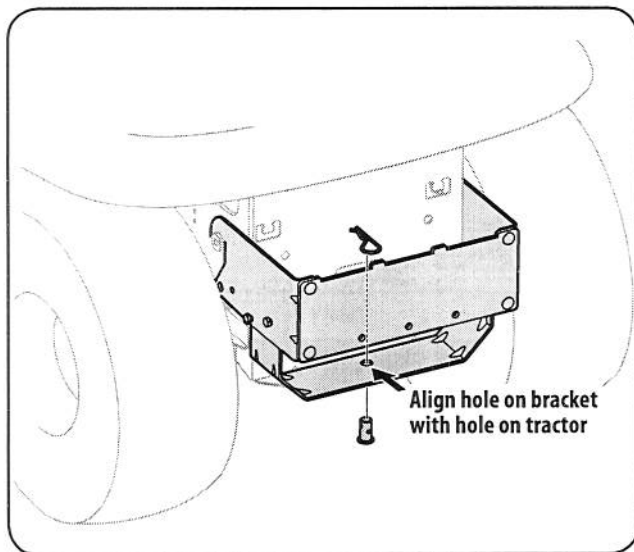

Figure 4-8
2. Install the clevis pin (711-0309A) from hardware pack 689-00087 into the tractor's hitch and the assembly's hitch support and secure with a hairpin clip (714-0117). See Fig. 4-8.